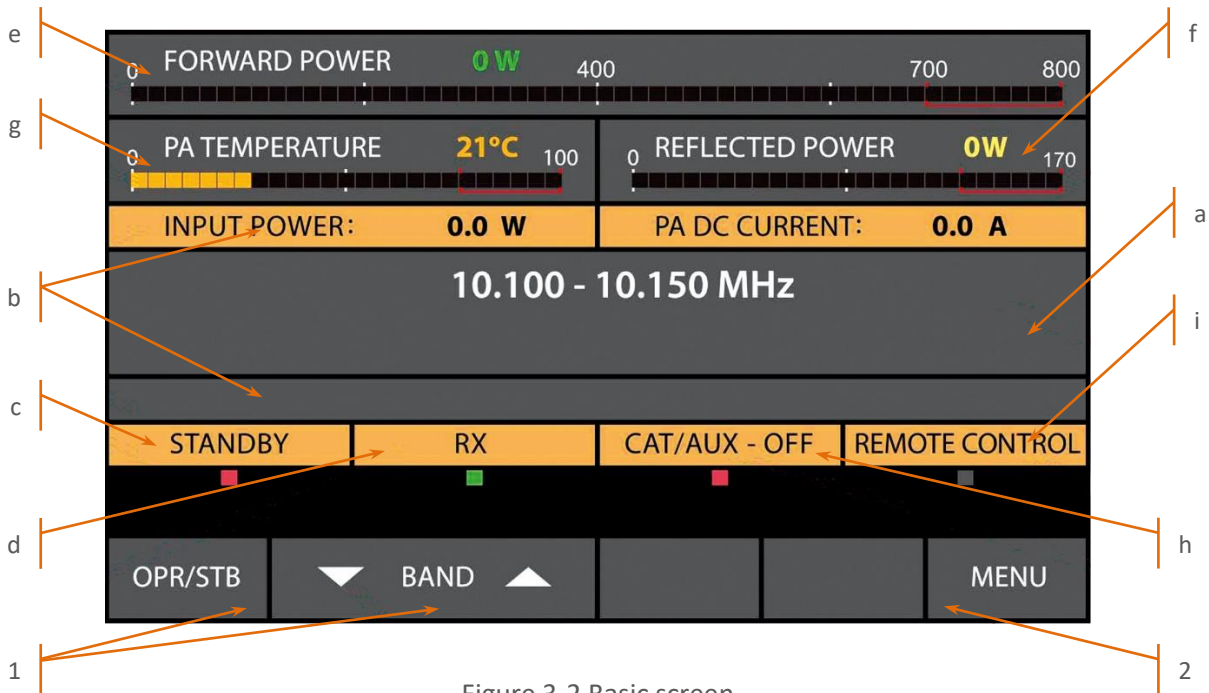

Figure 3-2 Basic screen
In order to start up the amplifier, push and hold the front panel POWER button for one or two seconds. About ten seconds later (boot sequence) the display will flash and show the basic screen with the amplifier information (see Figure 3-2 Basic screen).
Please, see Figure 3-2 Basic screen.
- 1) The OPR/STB and the BAND buttons are used for manual (local) control (see *Figure 3-2 Basic screen*):
- 2) The right-most button MENU (see *Figure 3-2 Basic screen*) provides access to the amplifier's settings and service functions:
Turn the amplifier on, as described in Sections **3.1 Low Energy Standby Mode of the Power Supply**, **3.2 Front Panel**, **3.3 Initial Turning On** and **3.4 Basic Screen** (see **Figure 3-2 Basic screen**).
- Manually (locally) - by pressing the OPR/STB button alternatively (see Figure 3-2 Basic screen);